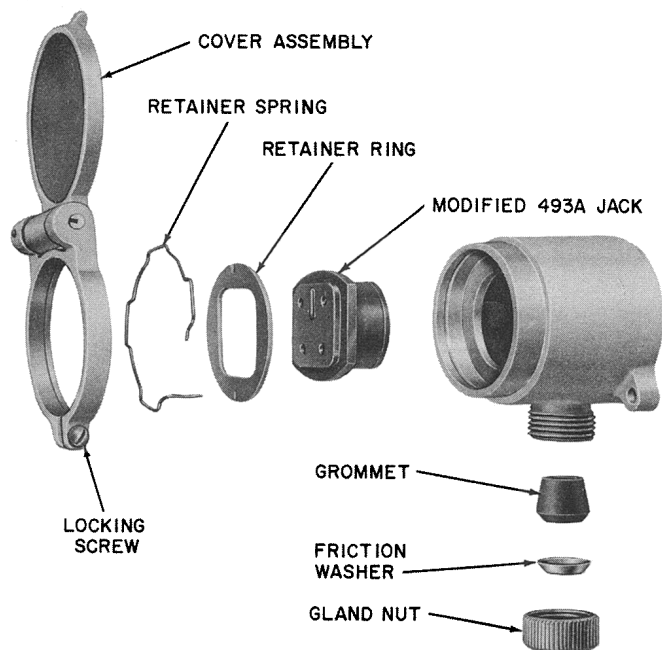

Fig. 23 — Assembly of KS-16151, List 1 Jack
2.23 The KS-16151, List 1 jack (Fig. 23) is Manufacture Discontinued (MD) and is replaced by the KS-19316 series weatherproof housings (3.07).